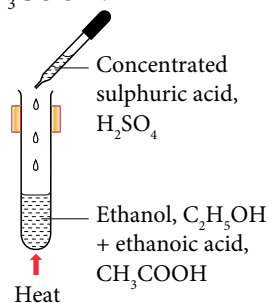

Figure 2.18
- Add five drops of concentrated sulphuric acid, H_2SO_4 into the mixture with a dropper and shake the boiling tube as shown in Figure 2.18.